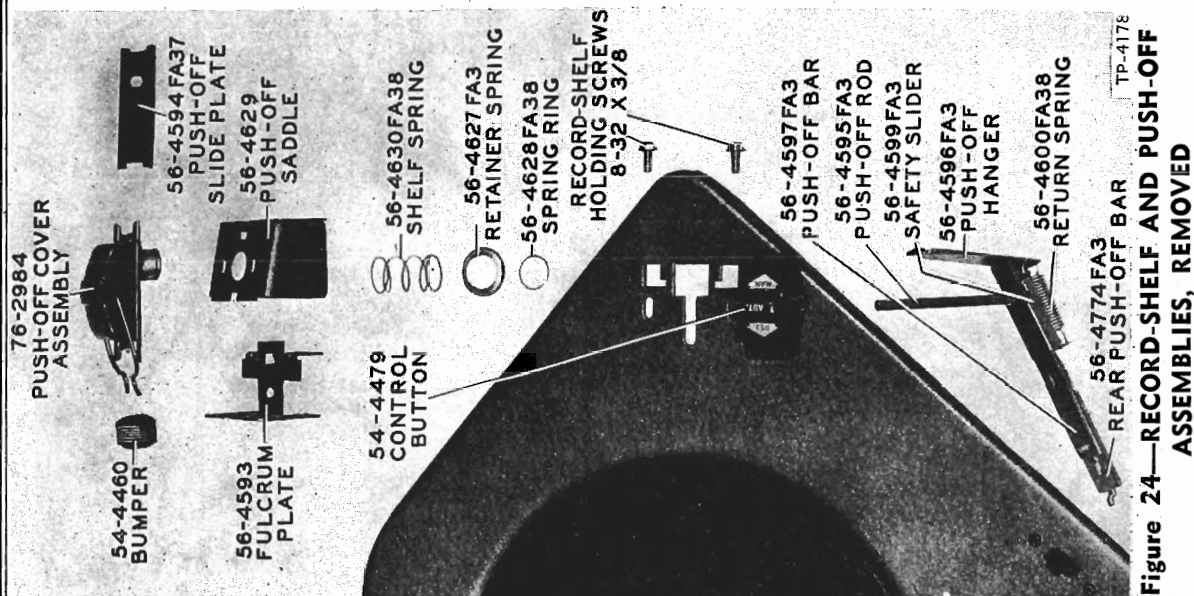

Figure 24—RECORD-SHELF AND PUSH-OFF ASSEMBLIES, REMOVED
- Align ears on record-shelf assembly with cutout on base plate. Lift out record-shelf assembly. Record-shelf assembly is shown in figure 24.